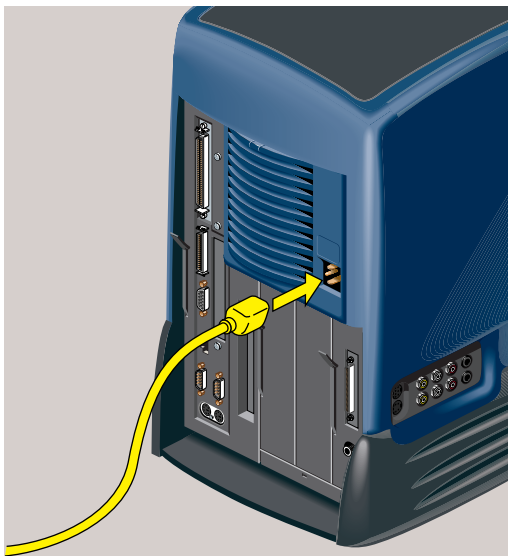

Figure 2-49 Connecting the Power Cable
5. Reconnect the power cable and any other cables you removed (Figure 2-49).